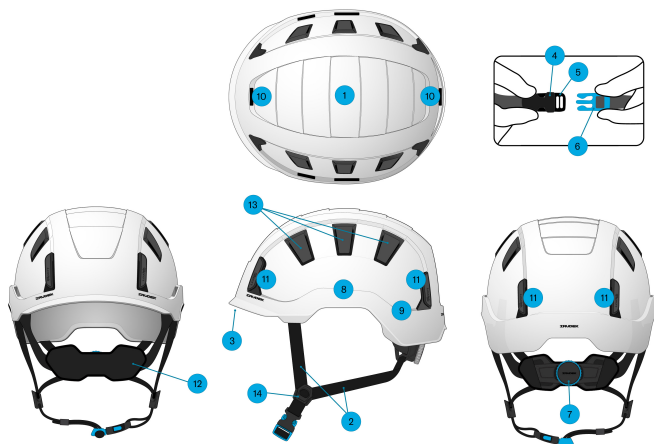

Fig. 1
- Before fitting, turn the adjustment system counterclockwise until it reaches its maximum size. Place the helmet on the head and adjust to the size of the user's head by turning the adjustment system clockwise to tighten and counterclockwise to loosen. (Fig. 1).